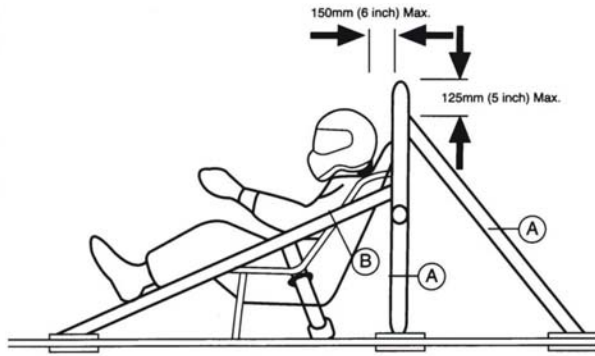
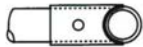

FIGURE 1 - SEDAN ROLL BAR
FIGURE 3 - BOLTED ROLLBAR JOINT (Where Permitted)
- a) A minimum of twelve 10mm (3/8 inch) HT bolts must be used, seven above the crank centre line and five below (see Figure 1)
- e) Scalping of the bell-housing flange is accepted if material equivalent to one bolt hole diameter is maintained around each attaching hole and at least 10mm (3/8 inch) of material is maintained between the radius and the edge of the flange (Figure 3).
- f) Motor plate must be 6mm (1/4 inch) aluminium (T6 highly recommended) or 3mm (1/8 inch) steel of full coverage style with minimum hole for crank flange to pass through (Figure 1).
Single rollover hoop covering the full width of the driver's compartment with two backstays and a side intrusion bar of welded construction constructed to ANDRA requirements as a minimum. (Figure 1). Utilities may use a four point roll cage with intrusion bars / diagonals on both sides. Roll cages fabricated from aluminium will be permitted in sedans with fixed steel roof slower than 11.00 seconds (1/4 mile)/7.00 (1/8 mile), where the original monocoque construction of the vehicle is unaltered.
Single rollover hoop covering the full width of the driver's compartment with two bolted backstays and a bolted side intrusion bar constructed to ANDRA requirements as a minimum. (Figure 1, Figure 3). Utilities may use a four point roll cage with intrusion bars / diagonals on both sides and single diagonals in the roof and main hoop. A removable taxi-bar may be used but must constructed as per ANDRA requirements. \(Plans are available upon request\)